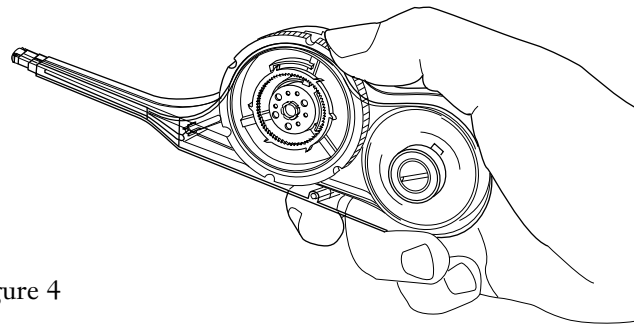

Figure 4
**5.2** To clean the MTP connector and adapters, use the MTP cleaning tool (p/n 2104466-01) provided in the Plug & Play Cleaning Kit (p/n TKT-PNP) (Figure 4).